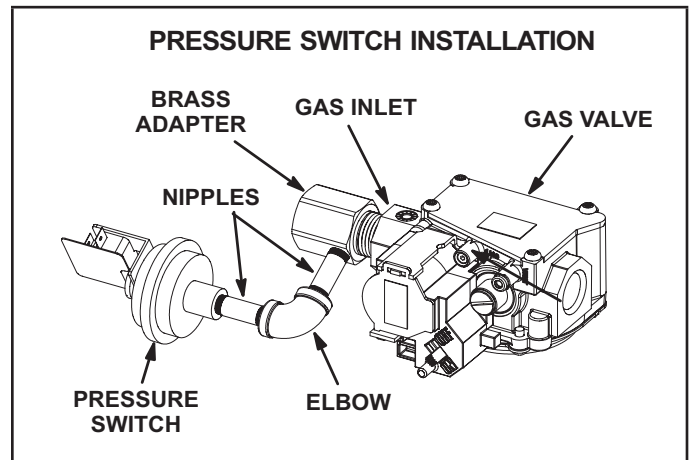
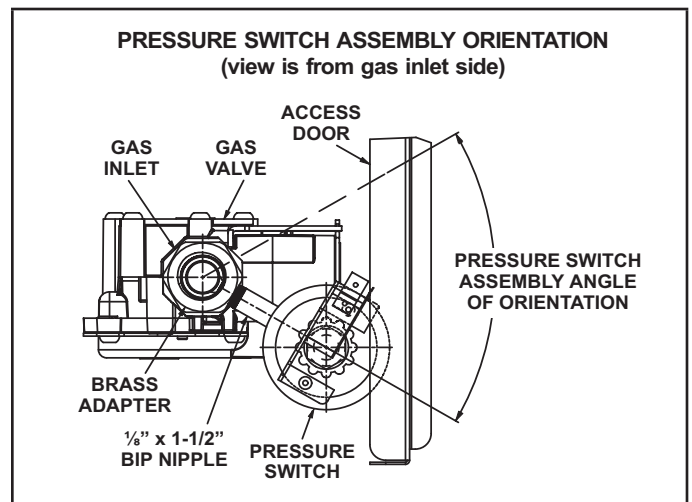

Figure 3
Figure 4
- 9 - Install pressure switch components as shown in figure 3. In order to close the door panel, orient the pressure switch lower than the gas valve. See figure 4.